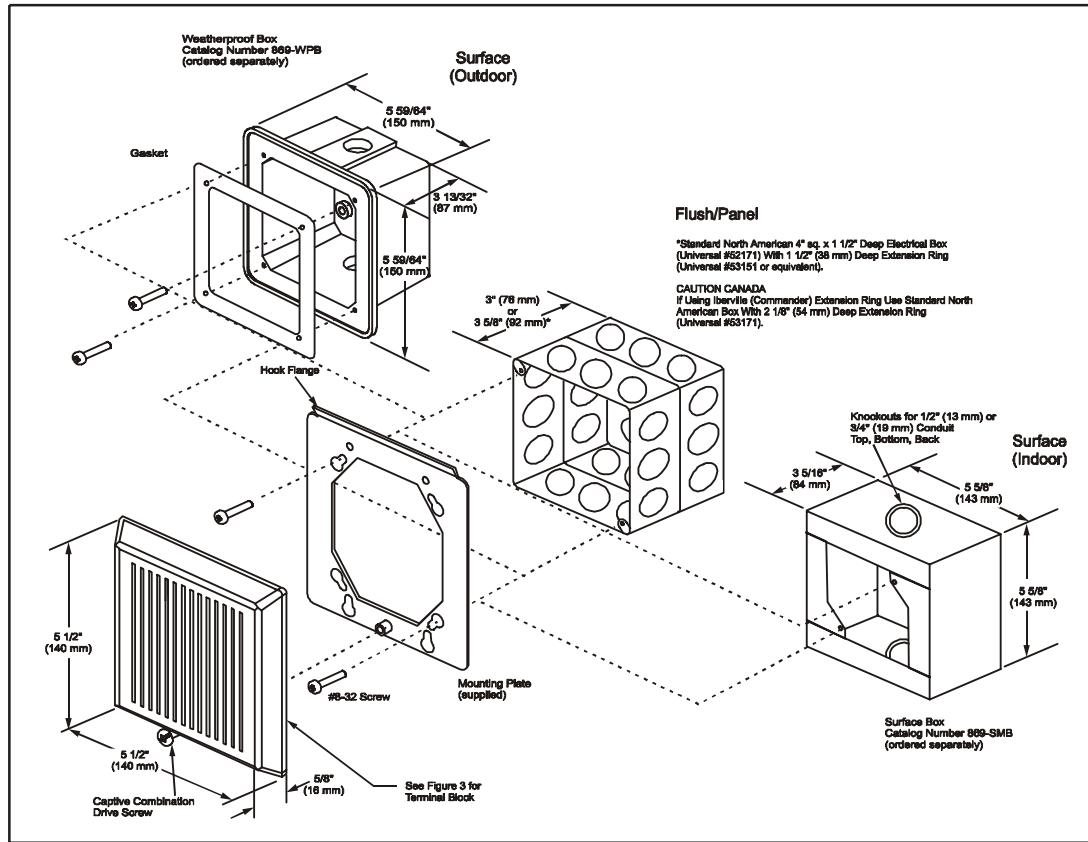

Figure 1. Detailed View
1. Select mounting method as detailed in Figure 1 and install the electrical box (not supplied) using suitable hardware.
- NOTE: Be sure hook flange is facing outward as shown in Figure 1.
6. Mount the horn assembly on the mounting plate (Figure 1).